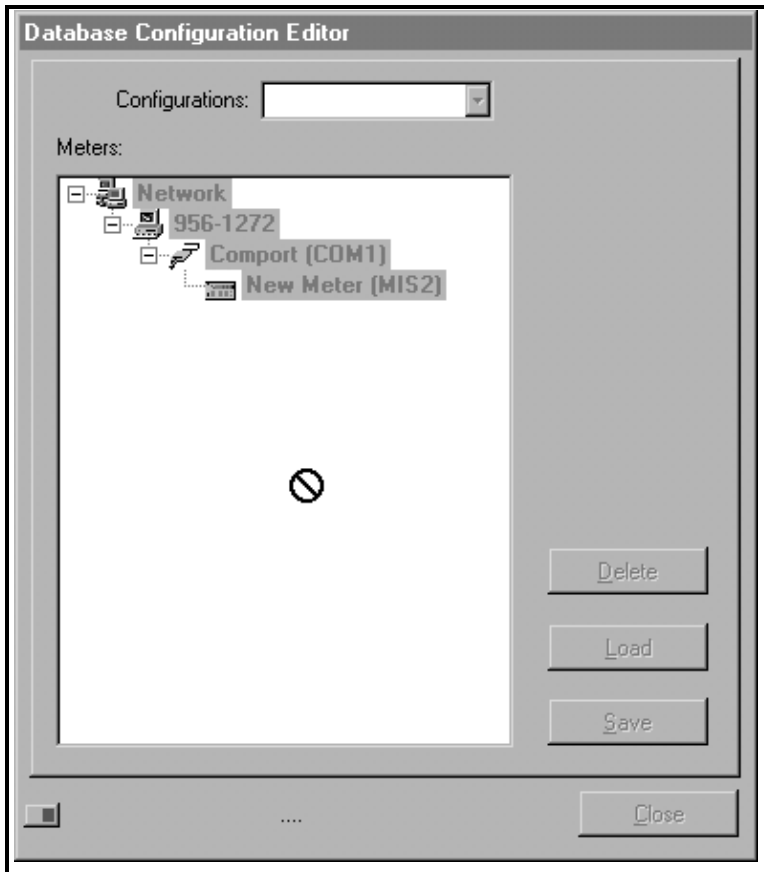

Figure 5-14: Saving a Configuration
3. The screen shown in Figure 5-14 below is displayed while PanaView creates a configuration using the properties of the chosen meter. During this process, the cursor and all of the option buttons are deactivated.